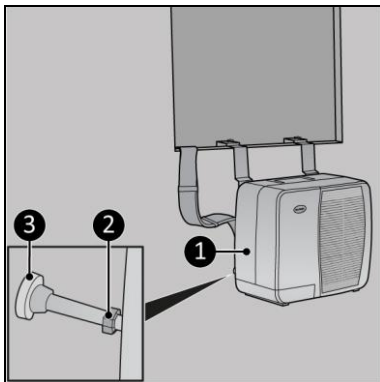

Figure 7
4. Make sure the outdoor unit (Figure 7, pos. 1) hangs level by tightening the nut (Figure 7, pos. 2) on the adjustment bolt. Make sure the bumper (Figure 7, pos. 3) is placed vertical.